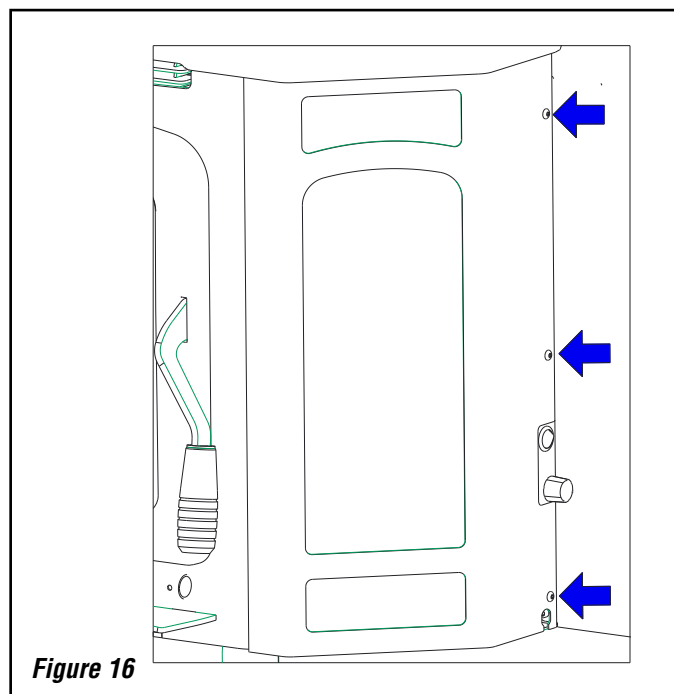

Figure 16
Step 7. Reattach the right side façade onto unit with the three 1/8" hex screws. See **Figure 16**.